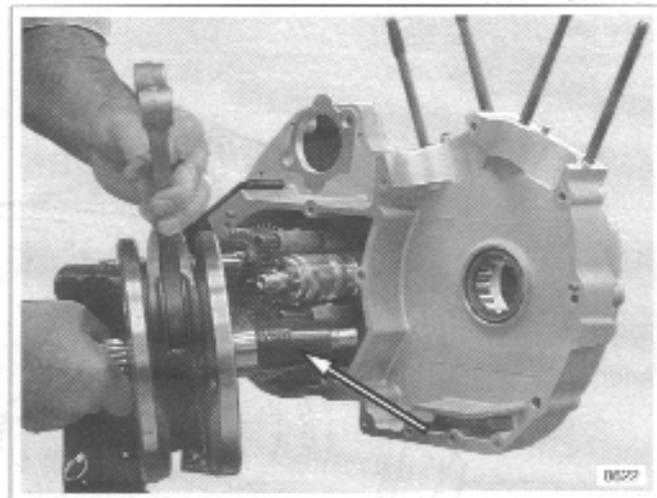

Figure 3-151. Installing Flywheel Assembly with CRANKSHAFT GUIDE (Part No. HD-42326)
4. See Figure 3-151. Attach left crankcase half to engine stand.